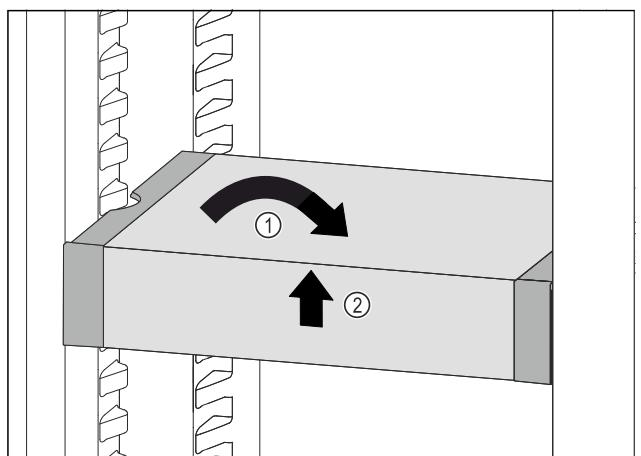

Fig. 88
- ▶ Set VarioSafe straight. Fig. 88 (1)
- ▶ Lift VarioSafe at the front. Fig. 88 (2)